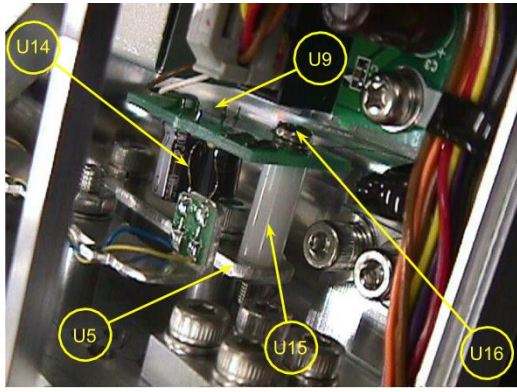

Fig.20
- Solder the two PT-NI bands (U14) to the Assy,Lever (U4) (Fig.20).